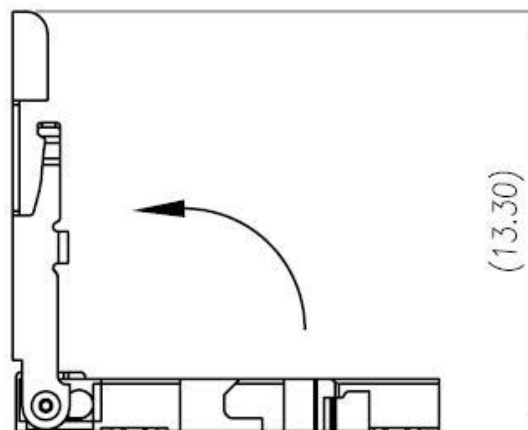

Figure 2-4
1. Find the installation slot of Micro SD card and open the slot according to the direction shown in Figure 2-4.